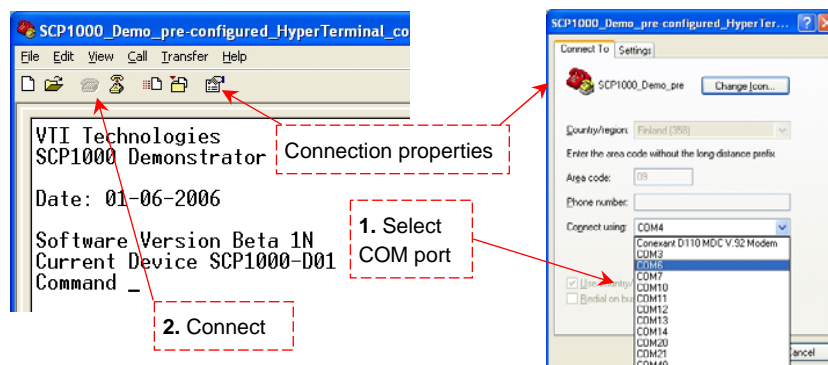

Figure 11. Windows HyperTerminal with SCP1000 demo info text.
5. Type '*' (asterisk character), the SCP1000 DEMO KIT sends an info text to HyperTerminal (see Figure 11). If the HyperTerminal software is unable to connect the SCP1000 DEMO KIT or the info text does not appear,
until info text appears to HyperTerminal screen (see Figure 11).